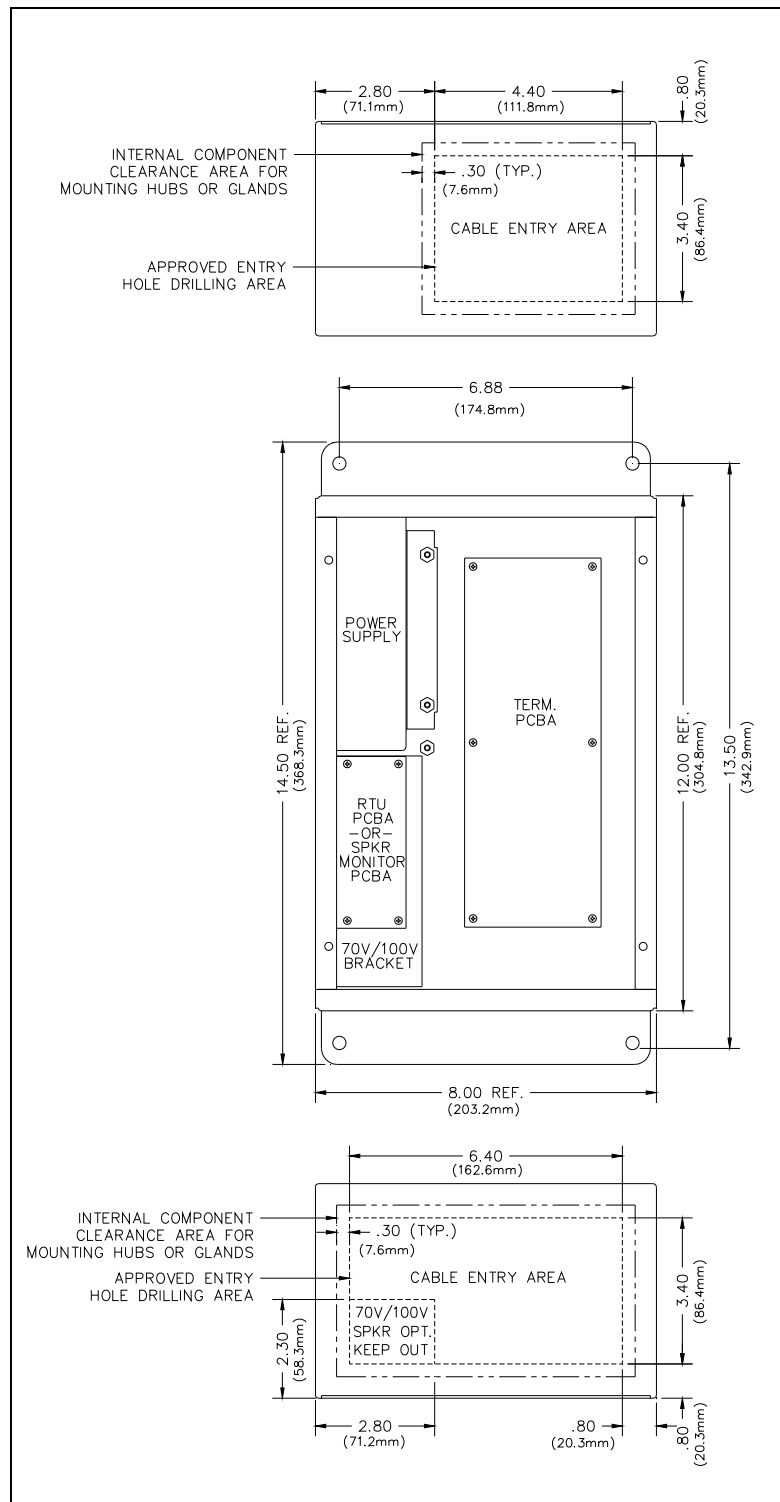

Figure 3. Suggested Wire Entry Locations
- The station is suitable for top or bottom entry (see Figure 3).
**NOTE:** ICS Page/Party® stations with the 70V/100V speaker output option installed have limited wire entry space on the bottom left side of the enclosure (see Figure 3).
Drill or punch the required openings in the rear section of the enclosure (see Figure 3).
The standard station orientation locates the power supply housing in the upper left corner (see Figure 3). The orientation of the enclosure can be rotated 180° to allow clear access to the top. The termination PCBA and the front panel must then be rotated for correct orientation before installation.